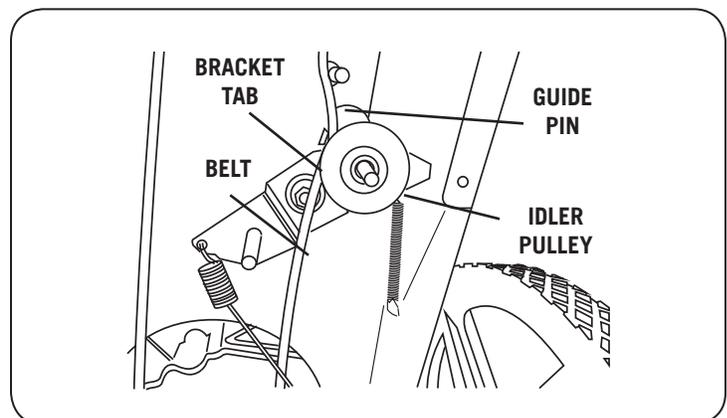

Figure 18
8. Install the small spacer and flat idler pulley (see Figure 18). Make sure you place the belt correctly between the idler pulley, bracket tab, and guide pin.
<p>Cutting head won't spin or lacks power.</p>	<ul style="list-style-type: none"> • Check for proper alignment of the v-belt. Check it against Figure 18 in the "Replacing the Belt" section on page 20. • The belt may be worn or frayed; if so, replace it. • If the cutting head still will not spin, follow the procedure for "Adjusting the Belt Tension through the Cutting head Control Cable" on page 19. • If none of the above helps, visit our web site at www.dirtyhandtools.com or call 1-877-487-8275 for assistance.
<p>Cutting head keeps spinning or spins when you release the safety bar.</p>	<ul style="list-style-type: none"> • Check for proper alignment of the v-belt. Check it against Figure 18 in the “Replacing the Belt” section on page 20. • If the cutting head keeps spinning when you release the safety bar, see “Adjusting the Belt Tension through the Cutting Head Control Cable” on page 19. • If none of the above helps, visit our web site at www.dirtyhandtools.com or call 1-877-487-8275 for assistance.